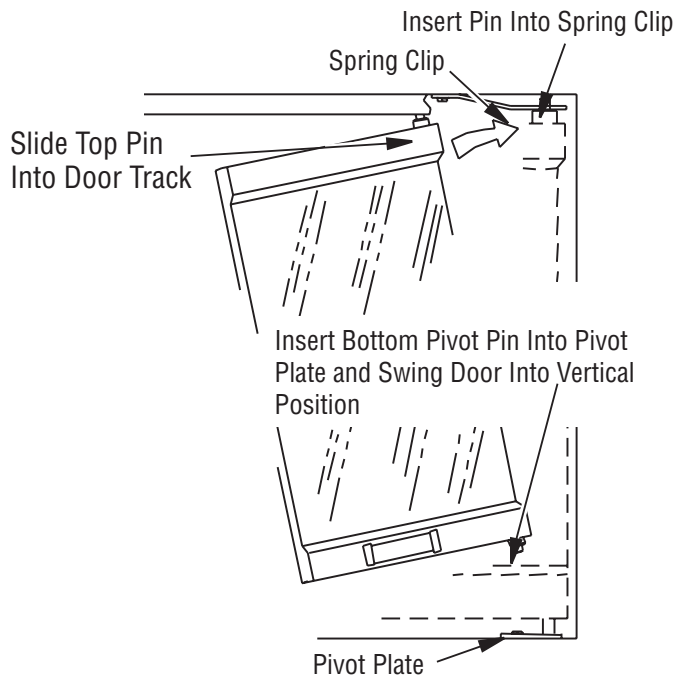

Figure 32 - Installing Optional Glass Door
2. With handle facing center of firebox opening, insert lower pivot pin on glass door panel into hole in pivot plate on bottom edge of fireplace opening (see **Figure 32**).
4. Tilt glass assembly fully vertical until outer pivot pin snaps into mounting hole in upper spring clip (see **Figure 32**).